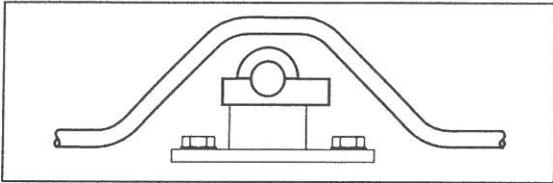

Fig.18 - Correct
**Get around obstructions without using excessive amount of 90° bends -** Pressure drop due to one 90° bend is greater than that due to two 45° bends. ( See figures 18 and 19 )